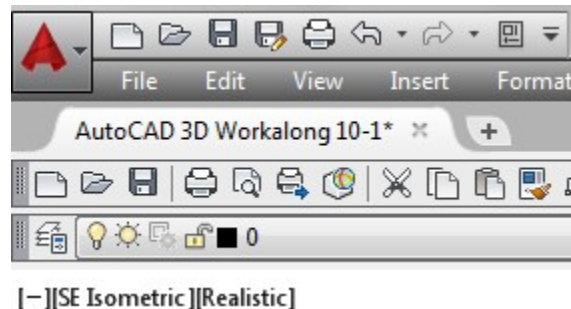

Figure Step 3A
Step 2 will enable the display of the Viewport Controls menu located in the top left corner of the Graphic window. (Figure Step 3A, 3B, and 3C)